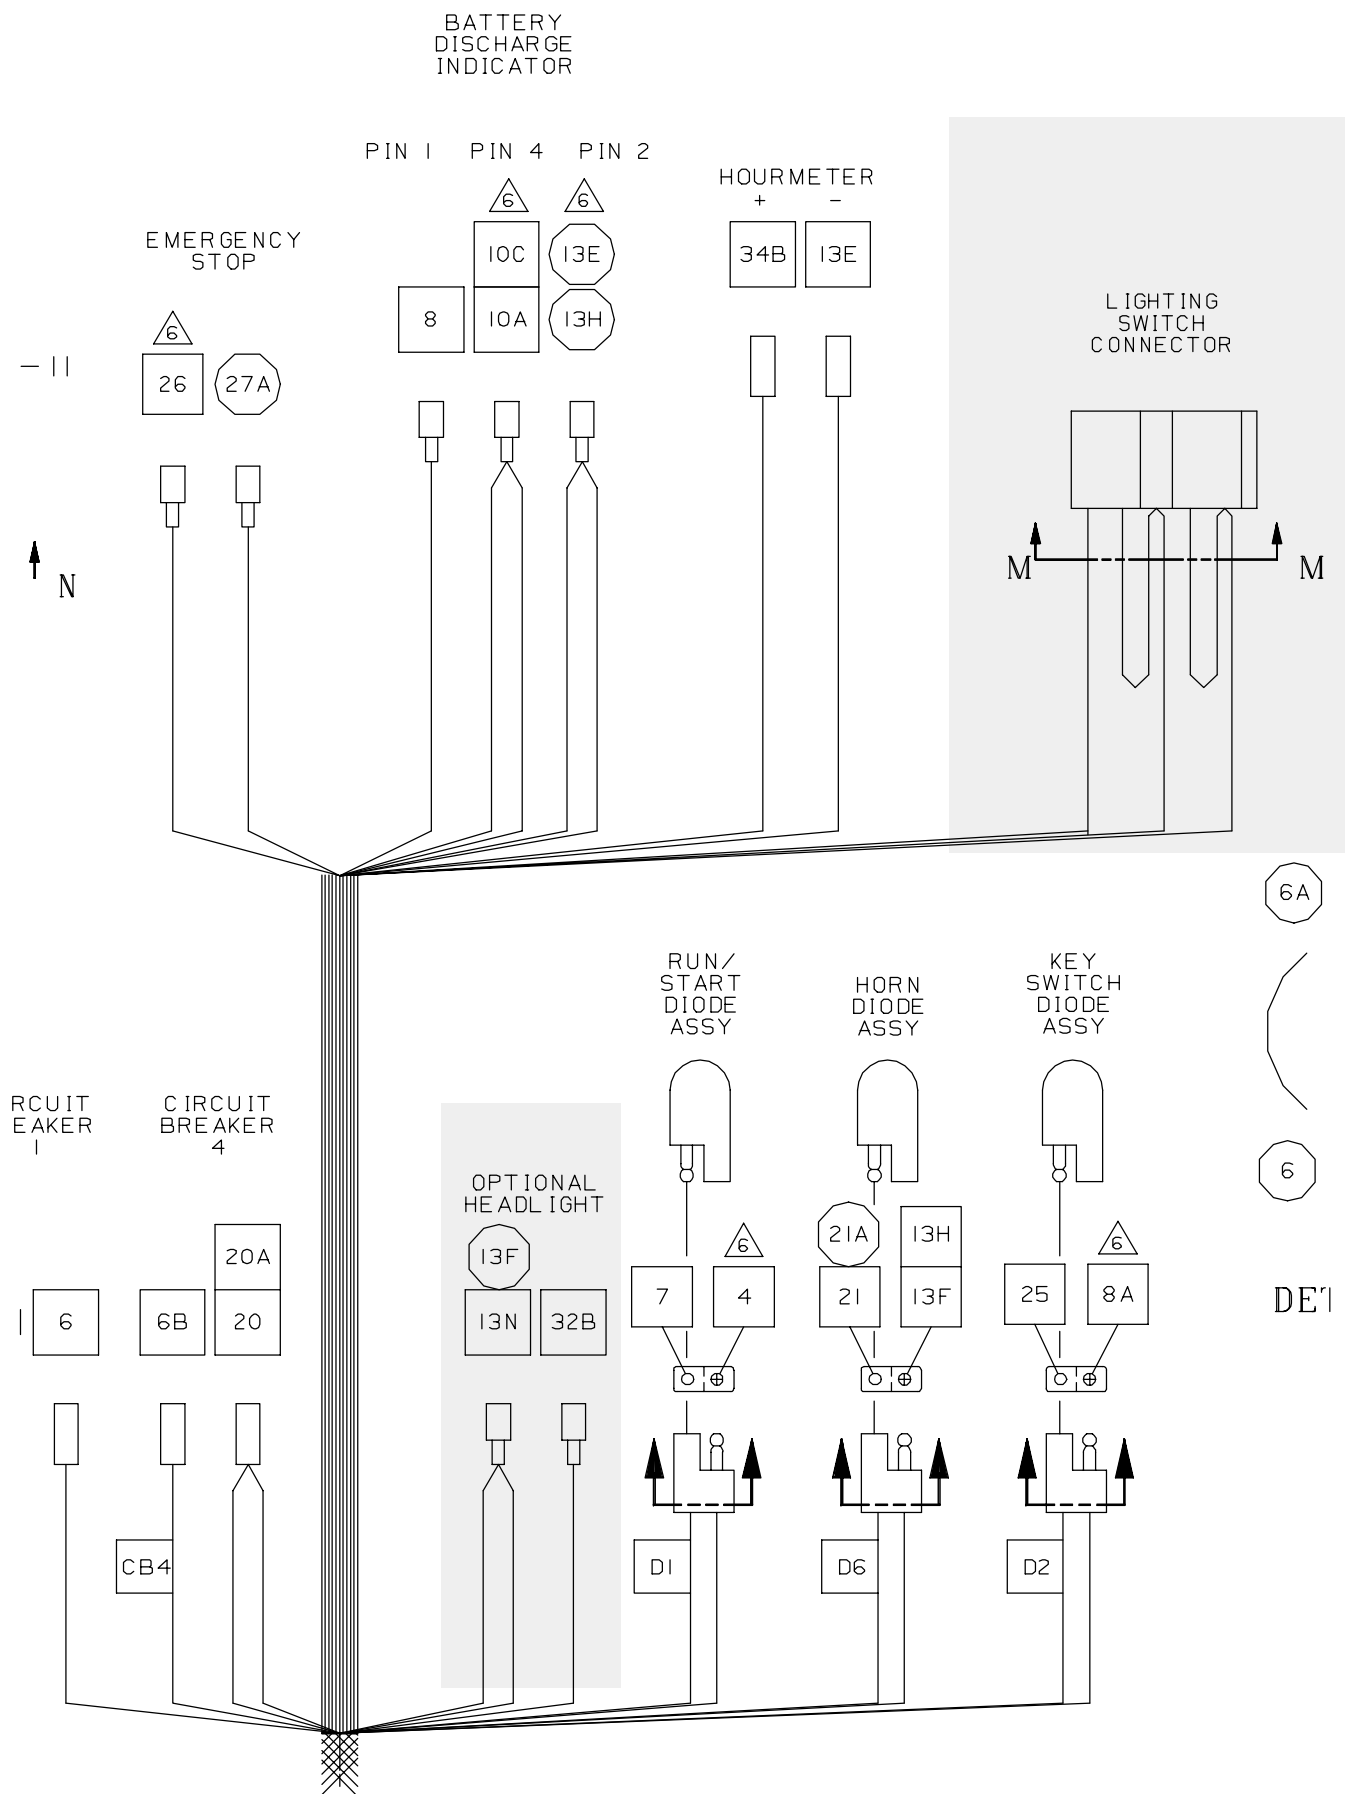

FIG. 2 - 6100 WIRING HARNESS, WORK LIGHT INSTALLATION
7. Install the new rocker switch (3) in the operating / hazard light position. Plug the new rocker switch into the main wiring harness. (Refer to FIG. 2 and 3)